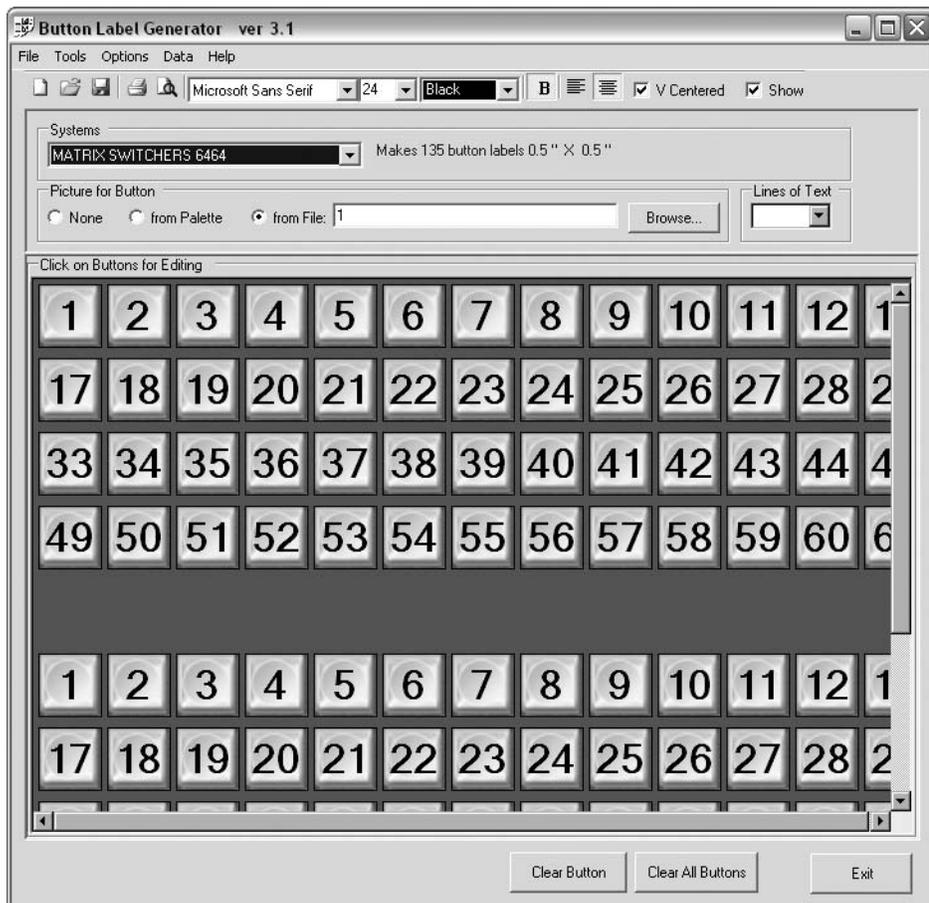

Figure 5-19 — Extron’s Button-Label Generator window
1. To run the Button-Label Generator program, click **Start > Programs > Extron Electronics > Button Label Generator > Button Label Generator**. The Button-Label Generator window appears (figure 5-19).